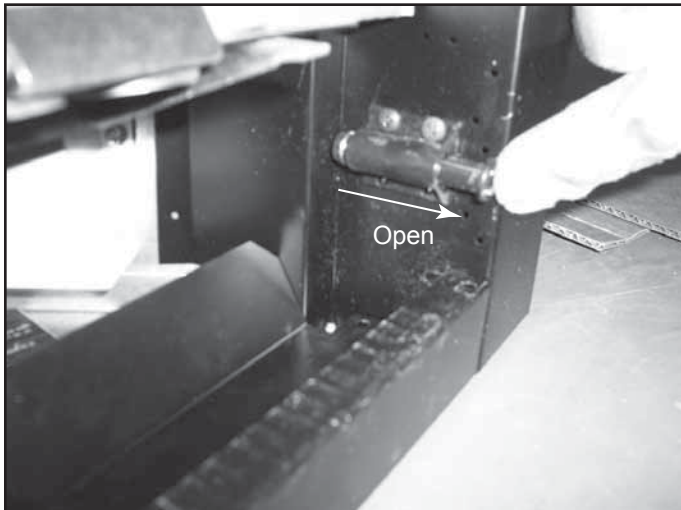

Figure 15.11 Magnetic Touch Latch Open
- Make sure the screen magnetic touch latches are in the open position. See Figure 15.11.